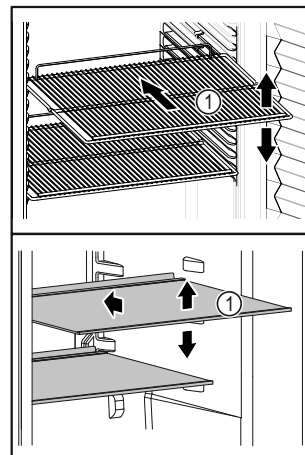

Fig. 30 Example illustration
- ❑ If storage surfaces *Fig. 30 (1)* are movable, adjust them according to height.